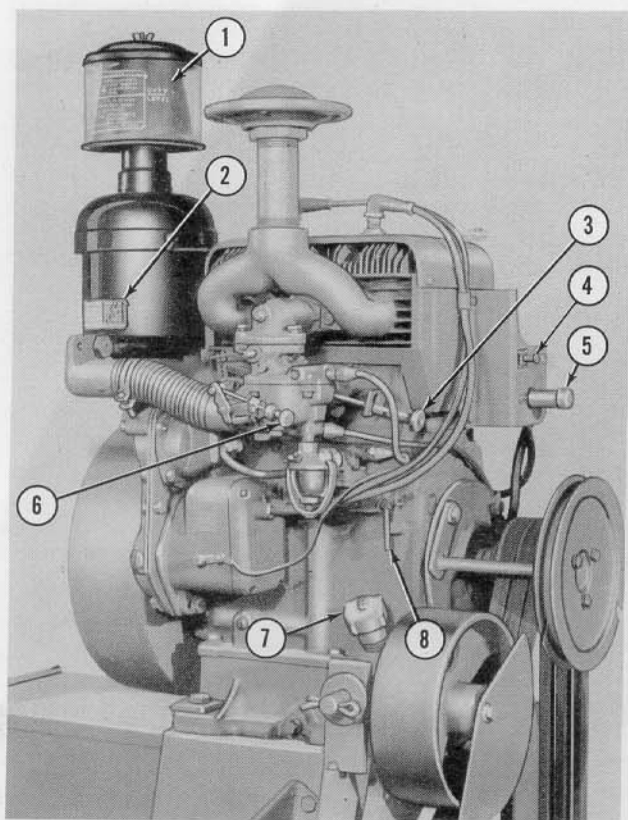

Figure 4
3. Fill the engine crankcase with oil (see 7, Figure 4) and the fuel tank with gasoline according to the instructions provided in the engine manual.
4. Pump the hand primer lever (8), Figure 4, ten to twenty strokes. This may not be necessary when the engine is warm.
5. Pull out the engine stop button (4) and the choke (6), Figure 4, then start the engine with
6. Set the throttle lever (3), Figure 4, to maintain a speed of not more than 68 strokes per minute on the baler plunger. The nuts on the throttle lever may be adjusted to provide the desired idle setting and full throttle setting.
2. Push the stop button (4), Figure 4, in.